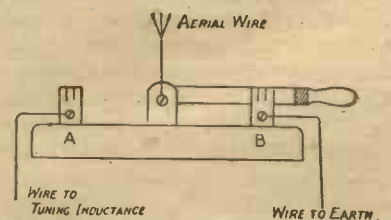

Fig. 2.—Details of Lightning Switch and Connections.
The lightning switch is shown enlarged by Fig. 2. A single-pole change-over switch is used. The aerial wire is connected to the arm. The lead to the tuning inductance is connected to A and the earth wire to B. When the set is in use the switch should be over to the left (A), and when out of use it should be over to the right (B), thus earthing the aerial.